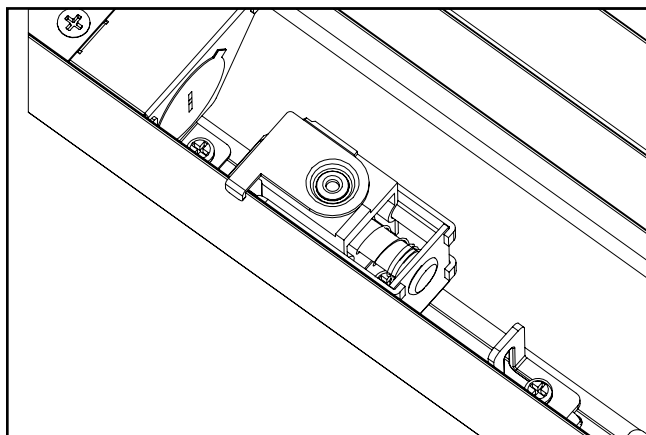
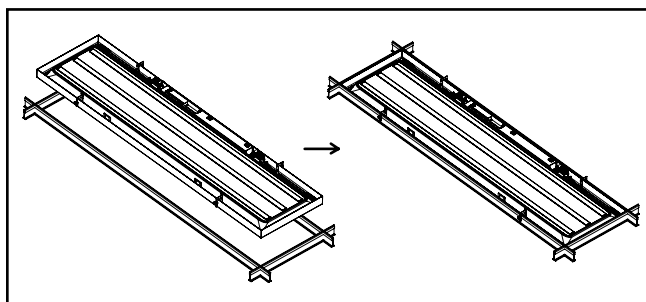

Figure 11.
Figure 12.
7. Make sure all latches are reset as below, then install the fixture into T-grid. See Fig.11 and Fig.12